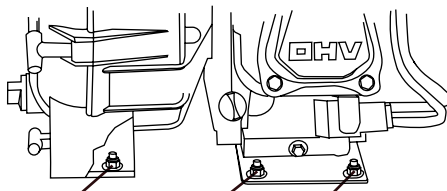

Fig. 18
4. Using an open end wrench, loosen and remove the six nuts (four under the engine, two under the pump) and their washers that hold the unit to the frame (Fig. 18).